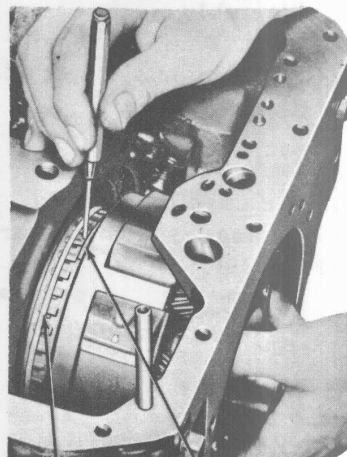

Fig. 31
- ☒ Carefully compress each drag spring as it is started on the inner race. After all the drag springs are started on the race, rotate the clutch to tilt the sprags. Push the clutch all the way down on the center support. Position a strong rubber band around the sprag outer end (Fig. 31).
- ☒ Place the rear band in the transmission case (Fig. 31).